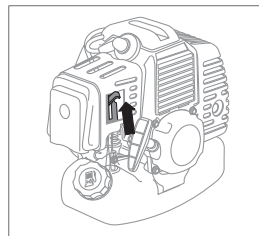

fig. 9
1. Move the choke lever to the top position - | / | "Closed" (fig. 9).
4. Move the choke lever (fig. 9) to the middle position.